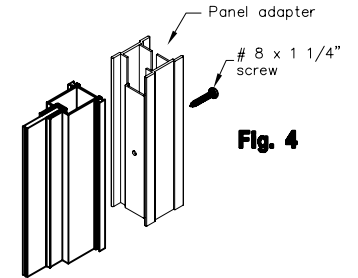

Fig. 4
8. If your door requires a panel adapter, place adapter over "x" panel as shown in Fig. 4. Using pre-punched holes in adapter as a guide, drill 1/8" holes in panel jamb taking care not to drill into glass. Attach adapter to panel by using # 8 x 1 1/4" screws through drilled holes.